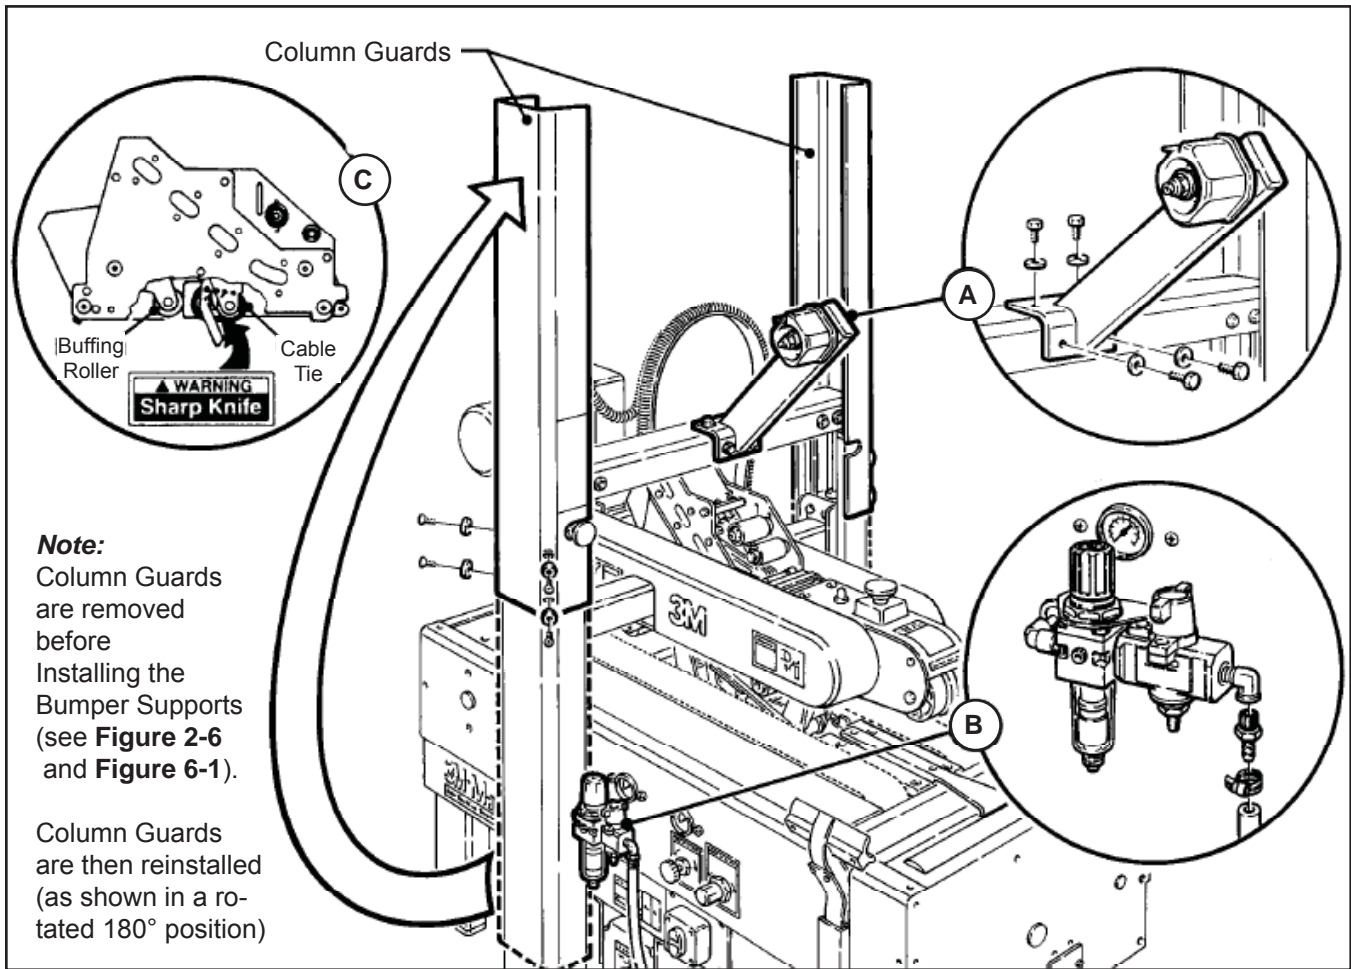

Figure 7-7 – 700rks Frame Set-Up
2. The column guards, shown in **Figure 7-7** have been installed upside down for shipping. Remove and retain the screws and washers holding the guards on the columns for re-installation after the Bumper Supports have been mounted (see Column Bumper Installation in the Installation and Set-Up Section and Special Set-Up Procedures Section / **Figure 7-7**). After the Bumpers have been installed, the Column Guards must be repositioned (rotated 180° and re-installed - **Figure 7-7**) for safe operation of the machine. Replace existing screws and washers to secure the guards in place.